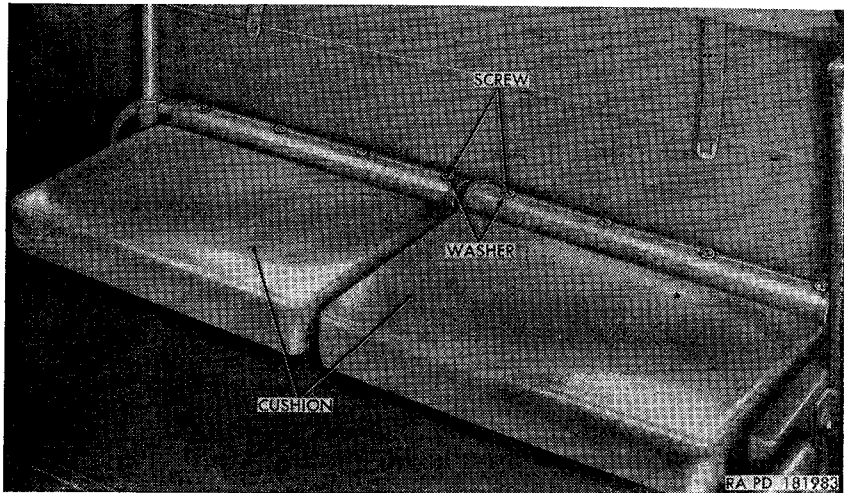

Figure 202. *Right wheel house cushions—installed.*
- (2) *Installation.* Place the front passenger seat back cover and pad and the crash pad and cover in position within the driver's compartment. Secure the front passenger seat pivot brackets to the floor pan with two $\frac{5}{16}$ -inch flat washers and $\frac{5}{16} \times \frac{3}{4}$ lockwasher screws. Move the front passenger crash pad and cover forward until the locking bracket on the seat frame engages the footman loop on the floor pan. Position the front passenger seat cushion within the driver's compartment so that the pivot pins are over the seat hinge pivots on the floor pan. Aline the flat sides of the pins with the flat faces of the pivots and insert the pins into the pivots. Tilt cushion rearward until the frame rests on the floor pan.
c. *Wheel House Cushions* (fig. 202).
- (1) *Removal.* Remove the four oval-head tapping screws and finish washers securing each of the two right wheel house cushions to the top of the right wheel house and remove cushions from within vehicle. Remove the five oval-head tapping screws and finish washers securing each of the two left wheel house cushions to the top of the left wheel house and remove the cushions from the vehicle.
- (2) *Installation.* Position the two right wheel house cushions on the top of the right wheel house and secure each one with four No. 10 finish washers and No. 10 x 1/2 oval-head tapping screws. Position the two left wheel house cushions on top